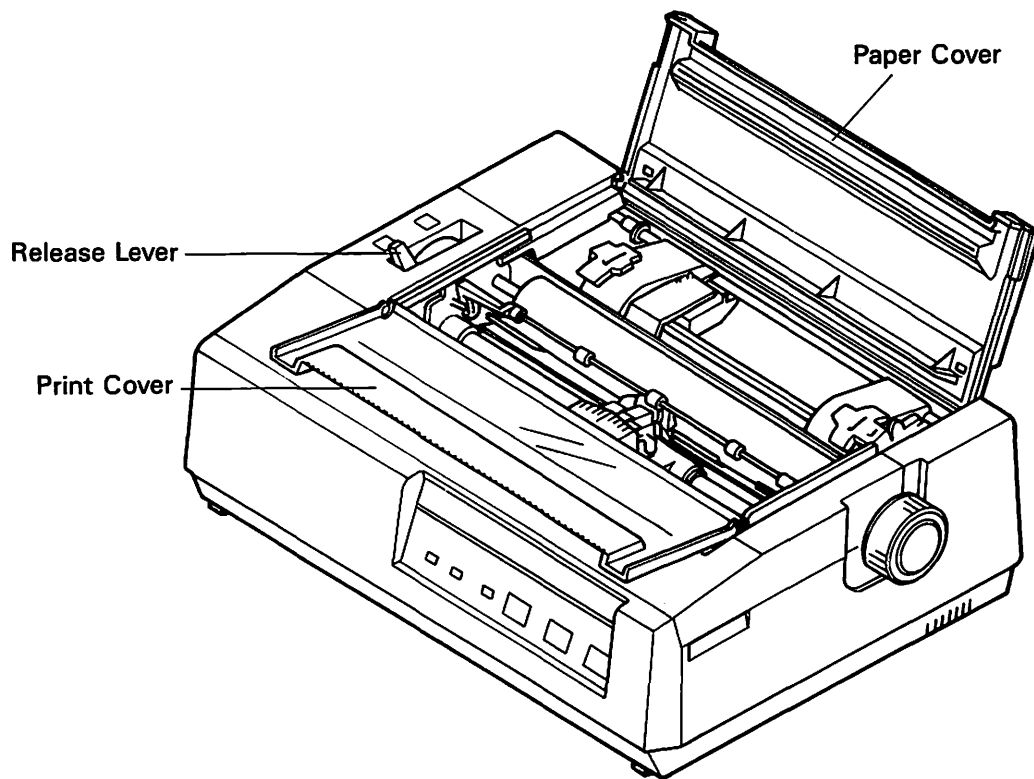

Fig. 2-4
- 3) Pull the release lever toward the front. (See Fig. 2-4)